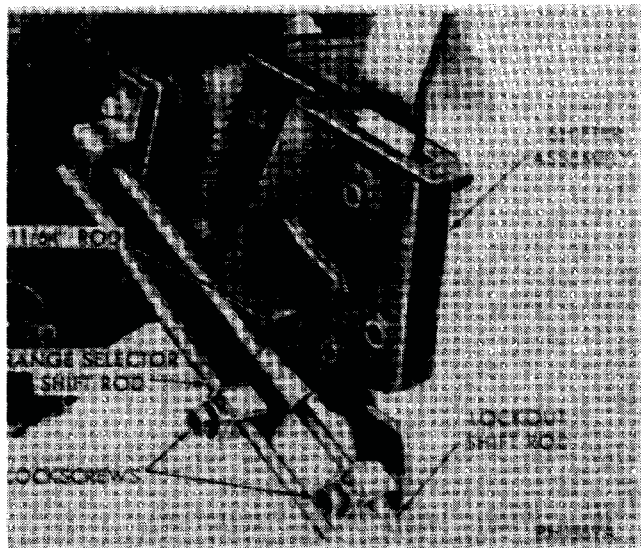

Fig. 6—Alignment Rod in Position
(2) Place selector lever in cab into neutral position and insert 11/64 inch diameter rod through alignment holes in shifting housing (Fig. 6).
(3) Place range shift lever on transfer case (out-board lever) into neutral position.